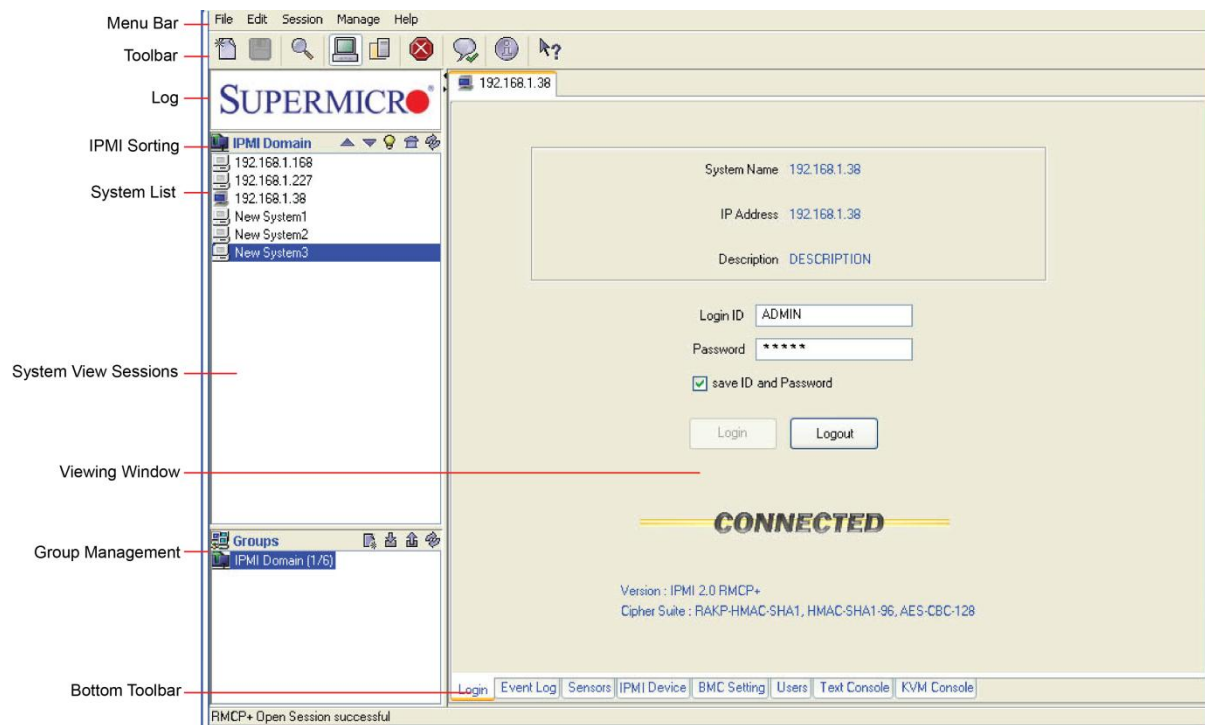
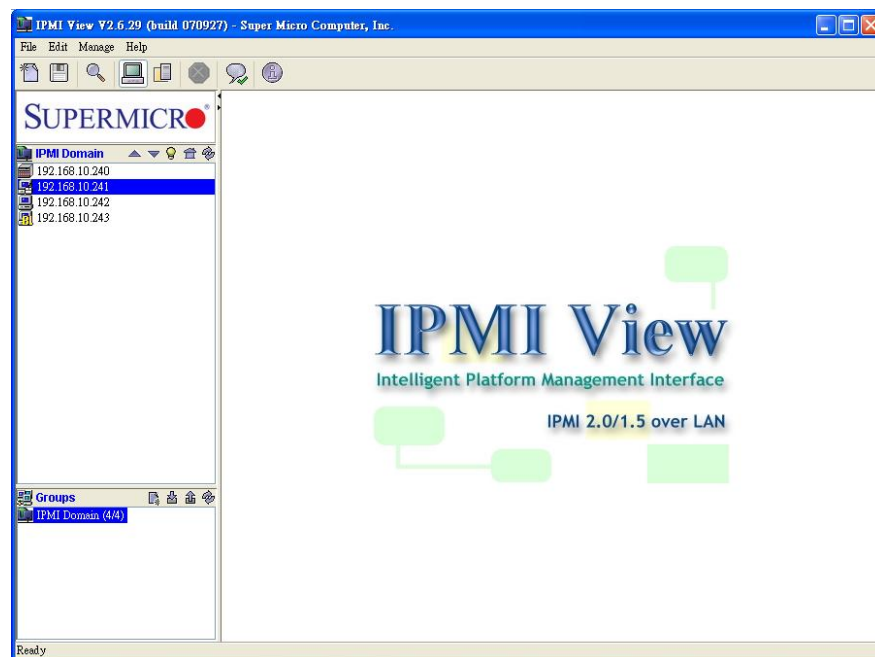

Figure 2-1
Figure 2-2
- **Toolbar:** contains functions that allow you to execute commands quickly. Click the icons on the toolbar to add a new system, save the current configuration settings, to discover IPMI devices, to access group management, to discontinue the IPMIView section and to access the help menus. See Figure 2-2 for details.
As shown in Figure 2-1, there are several components in the IPMIView window (Figure 2-2):